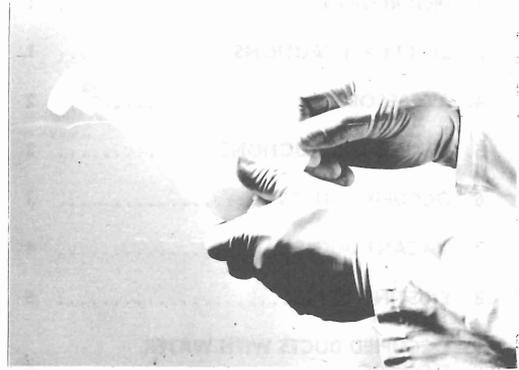

FIGURE 3
5.01 Remove the cartridge from the foil bag, then remove the tape band from the cartridge. (see Figure 3)